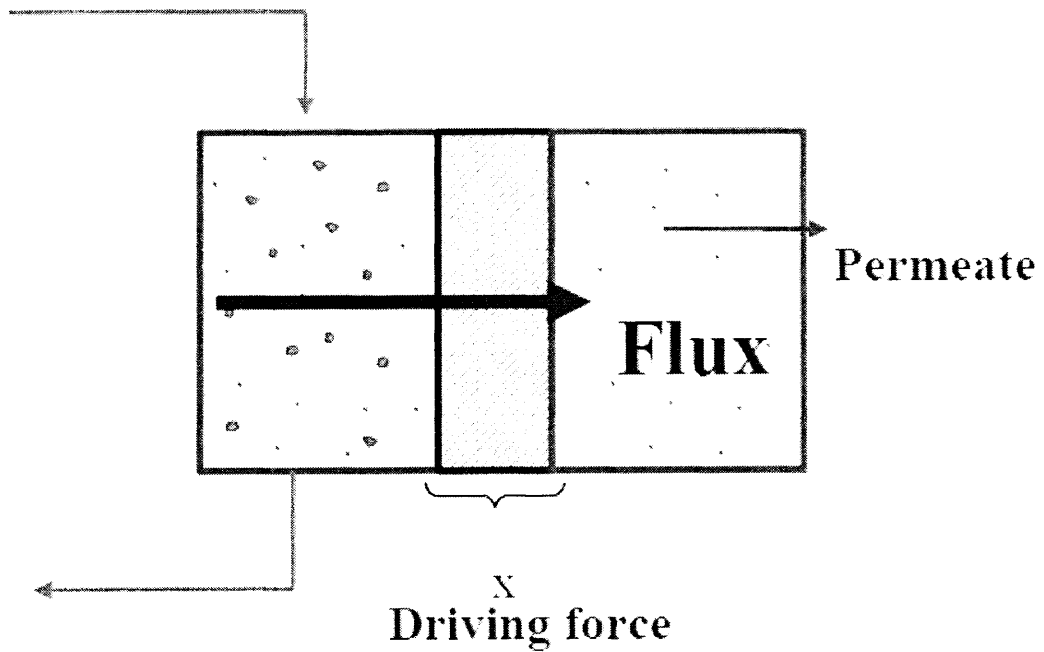

Figure 2.1 Mass Transfer Mechanisms
2. Please explain the mechanism and specify all the driven force from Fig.2.1 (13 points)